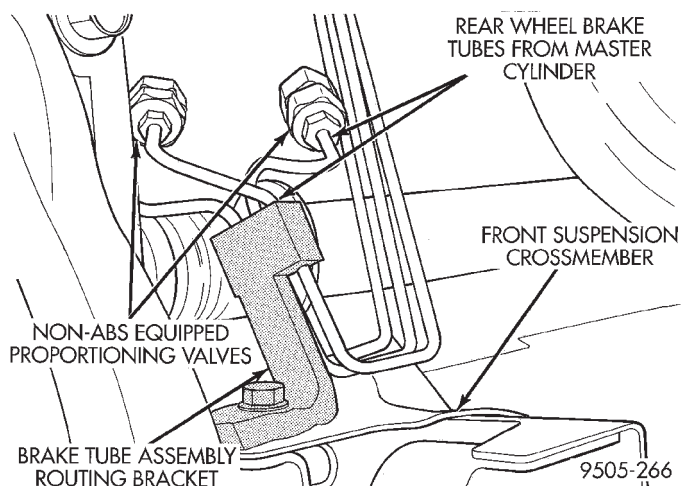

**Fig. 26 Non-ABS Brake Proportioning Valve Location**
One proportioning valve controls the right rear brake, and the other proportioning valve controls the left rear brake (Fig. 26). Therefore, a road test to determine which rear brake slides first is essential. Once the wheel which slides first is determined, use the following procedure to diagnose the proportioning valve.
(1) After road testing vehicle to determine which rear wheel exhibits premature rear wheel skid, refer to (Fig. 26) to determine which proportioning valve needs to be tested.
(2) Remove brake line (Fig. 26) from the proportioning valve controlling the rear wheel of the vehicle which has premature wheel skid.
(3) Remove the proportioning valve from the rear brake line.
(4) Install Pressure Test Fitting, Special Tool 6805-1 or 6805-2 on rear brake tube which the proportioning valve was removed from.
(5) Install proportioning valve into pressure test fitting installed on rear brake tube.
(6) Install Pressure Test Fitting, Special Tool 6805-3 or 6805-4 into outlet of the proportioning valve.
(7) Connect brake hydraulic line onto pressure test fitting installed in proportioning valve.
(8) Install a Pressure Gauge, Special Tool C-4007-A into each pressure test fitting. Bleed air out of hose from pressure test fitting to pressure gauge, at pressure gauge to remove all trapped air. hose.
(9) With the aid of a helper, apply pressure to the brake pedal until reading on proportioning valve inlet gauge, is at the pressure shown on the following chart. Then check the pressure reading on the proportioning valve outlet gauge. If proportioning valve outlet pressure does not agree with value shown on the following chart, when inlet pressure shown on chart is obtained, replace the proportioning valve. If proportioning valve is within pressure specifications do not replace proportioning valve.
(10) Check rear wheel brake shoe linings for contamination or for replacement brake shoes not meeting OEM brake lining material specifications. These conditions can also be a possible cause for a premature rear wheel skid.